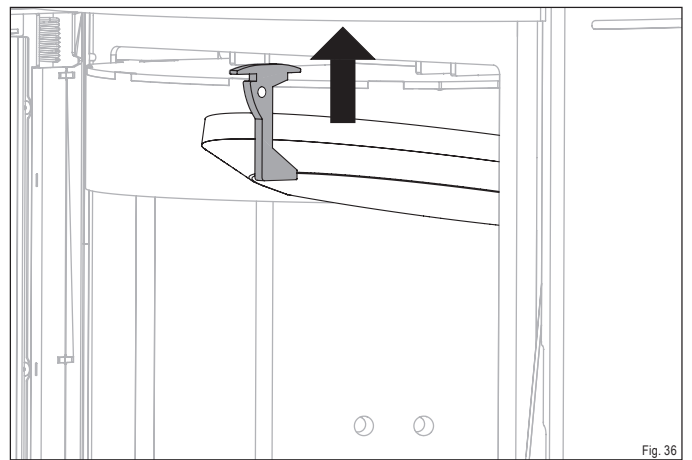

Fig. 36
- ▶ Slide the firebrick retainer upward (Fig. 36).